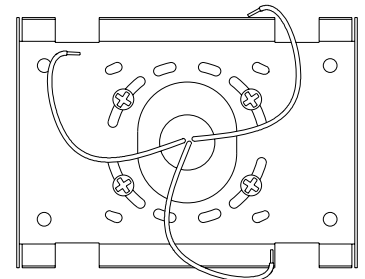

Figure 3
4. Place gasket over junction box opening. Secure luminaire mounting plate (supplied) to junction box temporarily using junction box screws. Make sure mounting plate's longest sides are running horizontal, not vertical. See Figure 3.